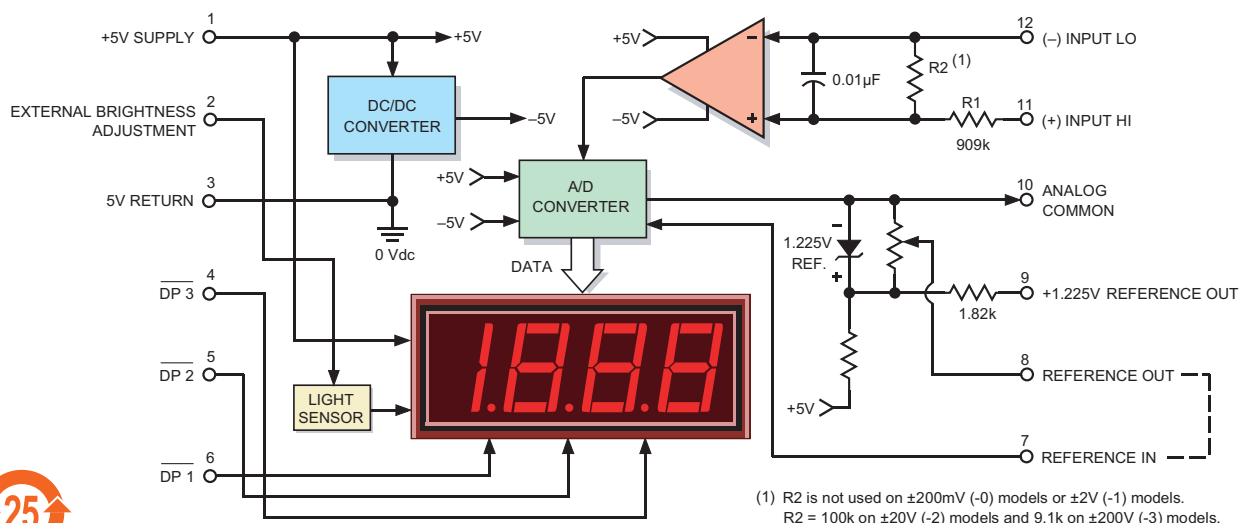

Figure 1. DMS-30DR Simplified Schematic
① Applies for transient or continuous overvoltages applied to (+) INPUT HI (pin 11) with (–) INPUT LO (pin 12) properly connected. Pin 12 is not overvoltage protected (see Figure 1). Voltages applied to pin 12 should not exceed the supply voltage.
② See Technical Notes.
The simplified schematic shown in Figure 1 can be very useful when debugging a malfunctioning panel meter circuit, particularly if the user has some knowledge of operational amplifiers (op amps). The meter’s high-impedance input consists of an op amp powered from a $\pm 5\text{Vdc}$ power supply (the -5V is internally generated). Knowing this, one can easily see why input signals applied to (–) INPUT LO and (+) INPUT HI have to be kept within the power supply rails of $\pm 5\text{V}$. Also note that only pin 11 has a current-limiting 909K Ω series resistor. High input voltages that have a common ground with pin 3 (5V RETURN) should only be applied to pin 11 ((+) INPUT HI) and never to pin 12. In these high-voltage cases, pin 12 should always be tied to pin 3 (5V RETURN).